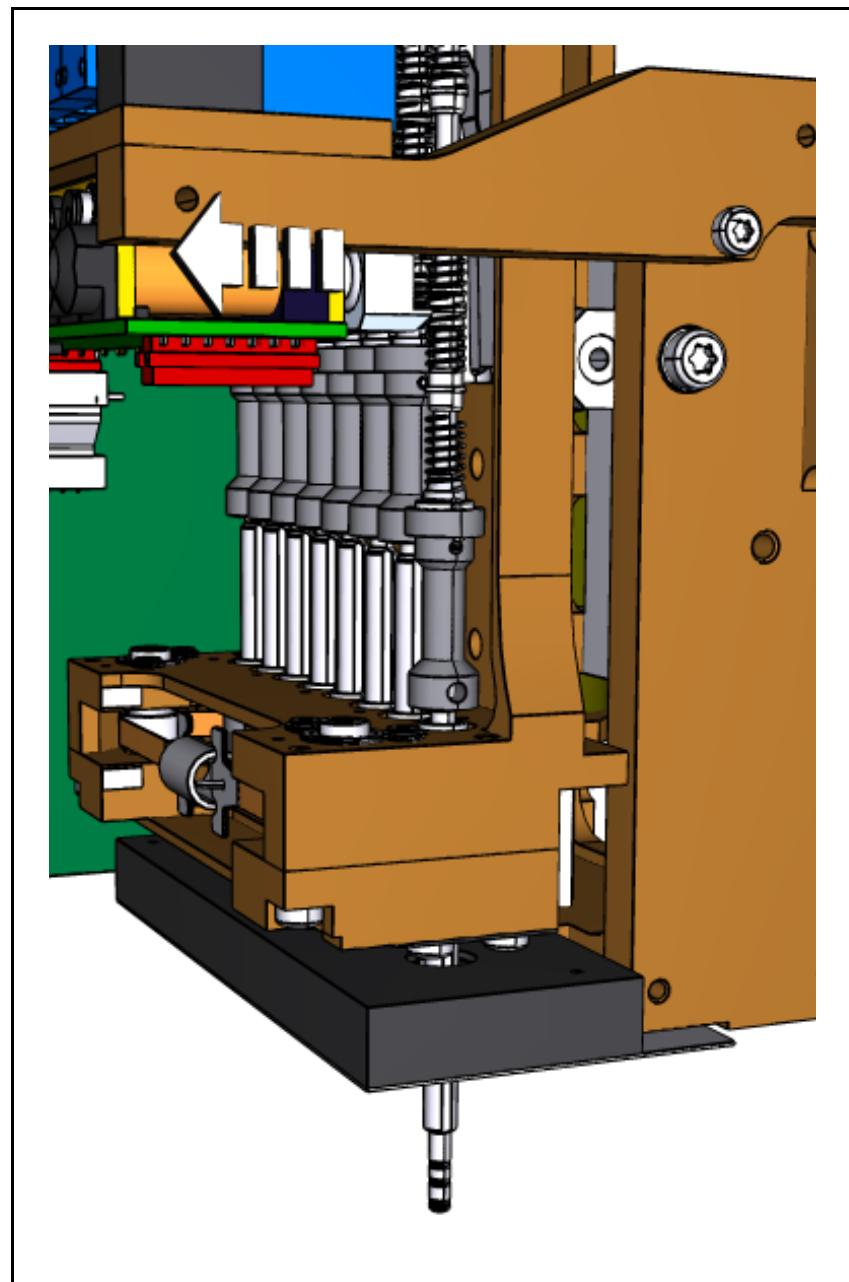

Figure 16-17. Release tool tube.
4. To check the friction on a tool tube after lubrication, release the tool tube by pulling the latch out, see Figure 16-17. Continue with the next step.